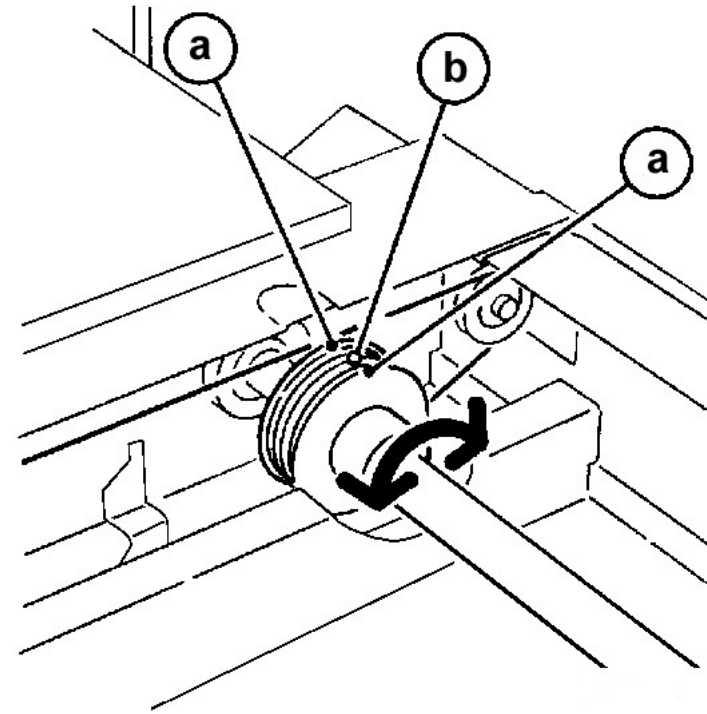

**Figure 2 Removing the CVT Platen Glass**
10. Remove the CVT Platen Glass. PL 13.4 Figure 2